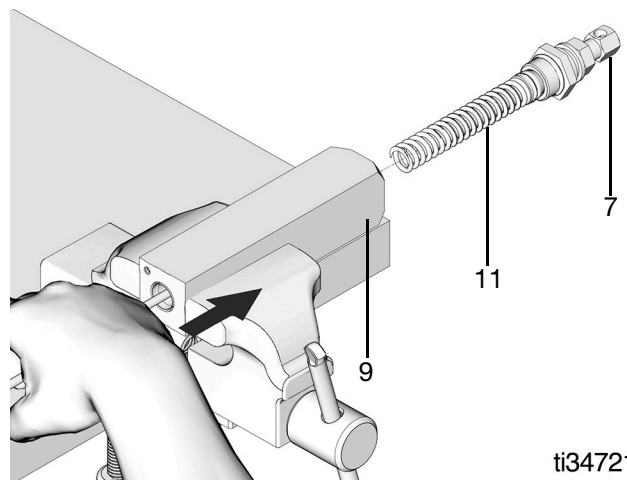

FIG. 6
- Remove displacement piston (7) and spring (11) assembly from injector body (9) (FIG. 6).